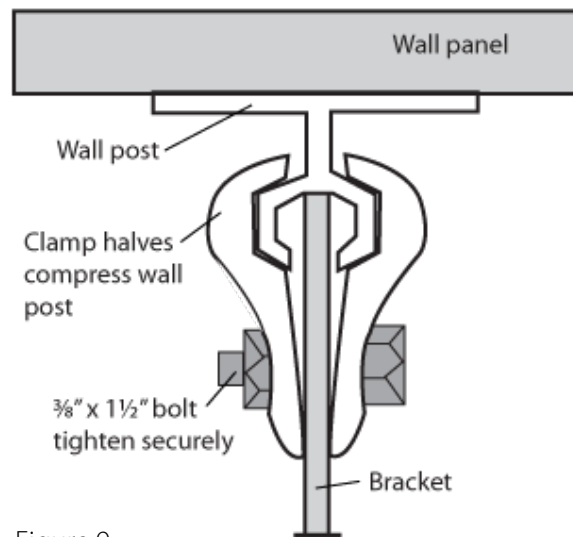

Figure 9:
- B. Position cross members within vertical channel slots with the ball bearing side facing up and the open side facing to the rear. Install clamp halves and hardware and tighten when cross member is level and at desired height. See Figure 9 and 10.
See Figure 9 on pg 5.